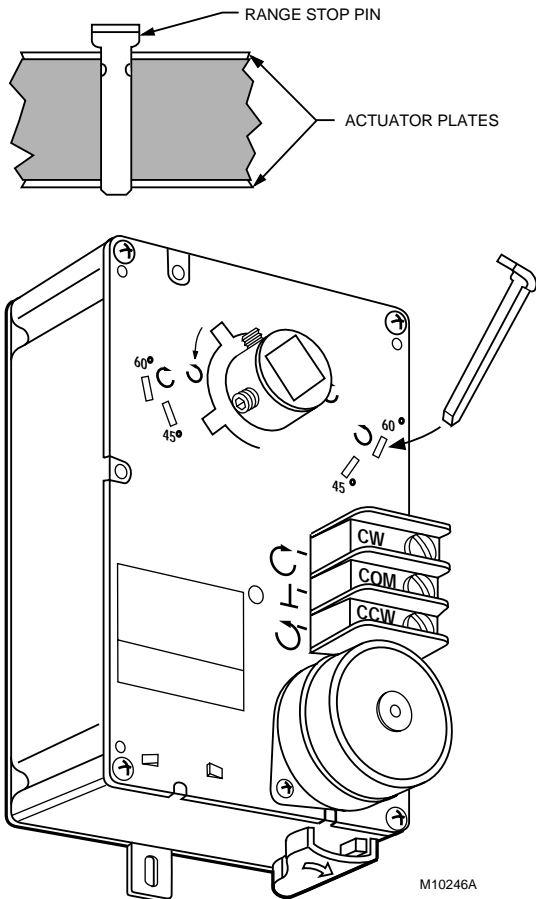
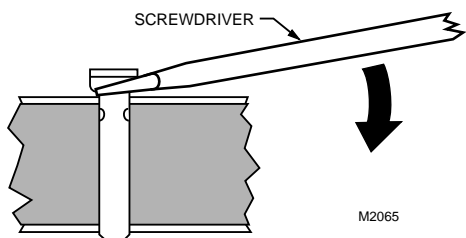

Fig. 6. Range stop pin properly inserted.
Fig. 7. Lifting range stop pin out of its slot.
3. Insert the range stop pin into the appropriate (cw or ccw) 45° or 60° slot. The range stop pin is clipped into its final position only after the pin passes through both actuator plates (see Fig. 6). The range stop pin should snap into position and not be removable manually (see Fig. 7).